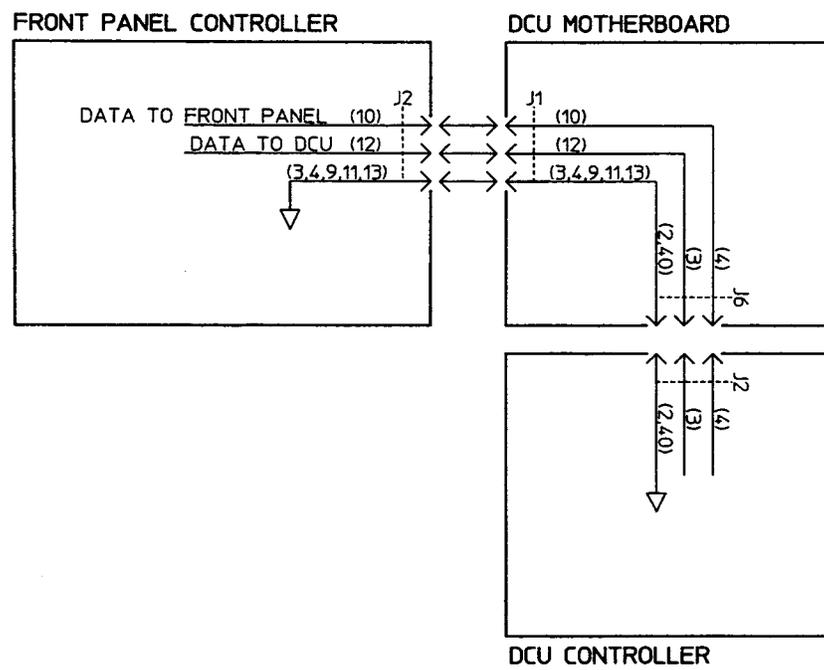
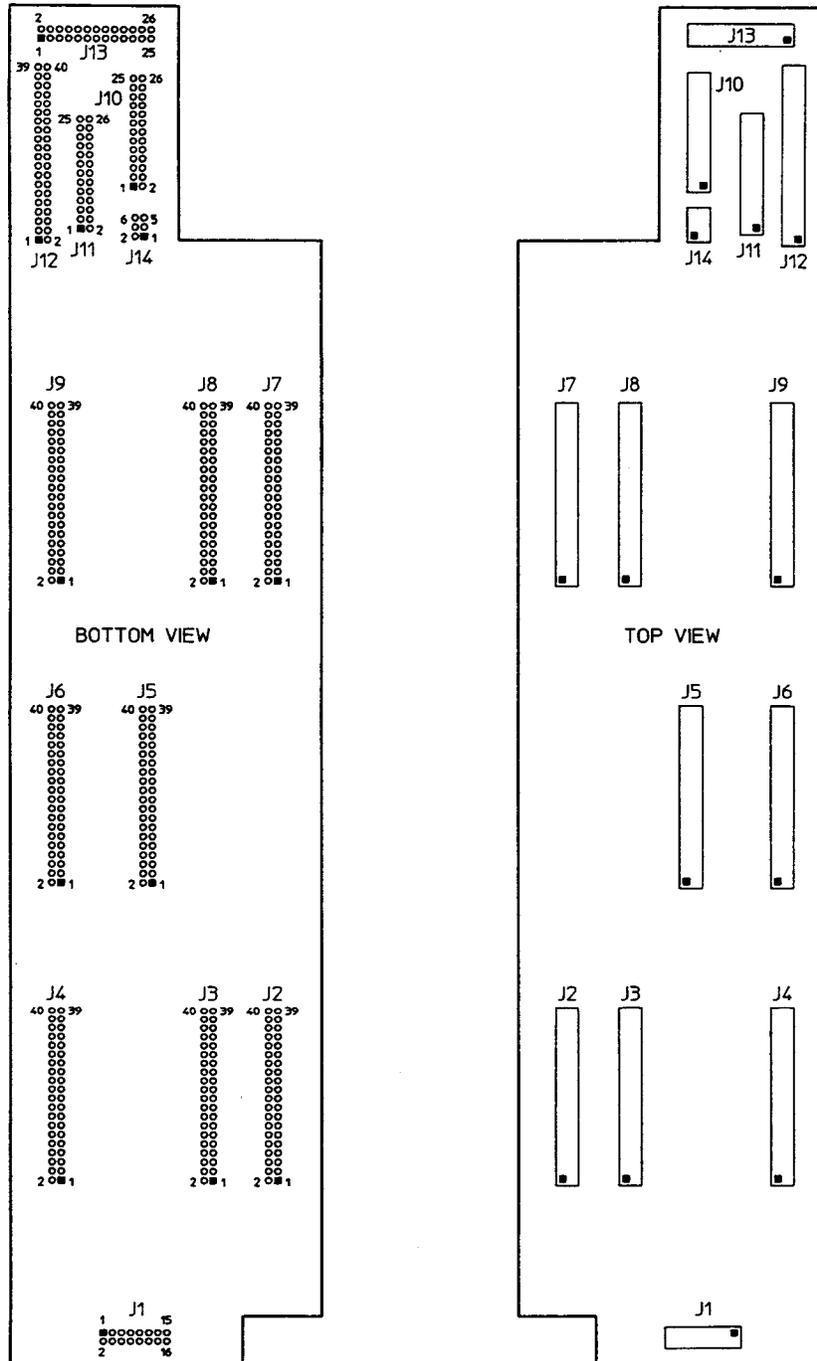

Figure 2-2. Front Panel Controller To DCU Data Lines Diagram
Figure 2-3. Motherboard Connector And Pin Identification
Use figure 2-2 as an aid in troubleshooting the front panel data lines. Use figure 2-3 as an aid in finding the correct pin locations for the test on the underside of the DCU Motherboard.
7. If data is present on all the lines and the problem remains, check the DCU status indicators (amber LEDs located on top front of the DCU Assembly in slot A16) to see if the DCU is operating correctly according to instructions in *DCU Status Indicators Check*. If no problem is found there, replace the Front Panel Controller. If that doesn't fix the problem, then troubleshoot the data lines to the Front Panel using figure 2-2.